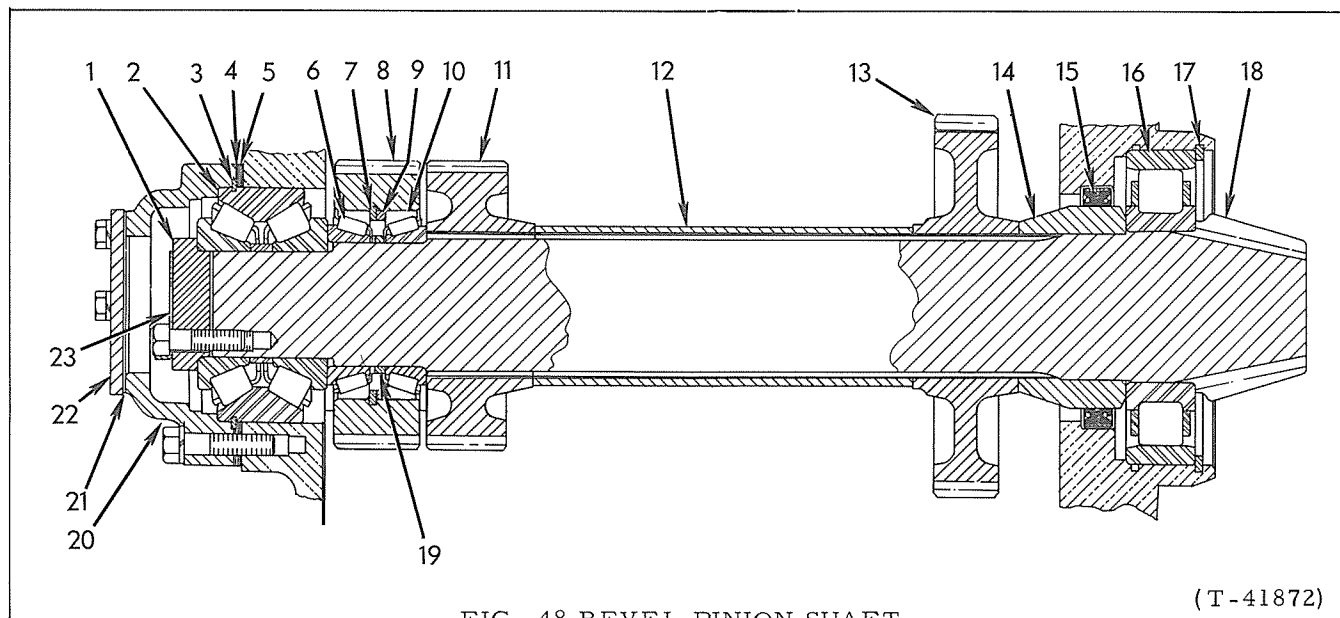

FIG. 48 BEVEL PINION SHAFT
Using suitable press, install rear bearing, Fig. 48 (16) and oil seal sleeve (14) on bevel pinion shaft.
- d. Install bevel pinion shaft oil seal, Fig. 48 (15) in its bore; make certain the seal is fully seated in its bore.
- h. Remove guide tool and install support strap under rear end of shaft. Install rear bearing race retaining snap ring, Fig. 48 (17).
- k. Install sleeve, Fig. 48 (12) and high speed gear (11) on bevel pinion shaft, with long hub of gear toward sleeve.
- o. Refer to Fig. 48; install idler gear and bearing as follows:
- (1) Install rear cone assembly (6) on shaft; tap cone assembly with a suitable driver to make certain it is seated against shoulder on shaft. Install spacer (19).
- (2) With bearing cups (10), spacer (9), and snap ring (7) installed in gear, install idler gear (8) on shaft against rear cone assembly.
- e. Refer to Fig. 48, install bevel pinion shaft front bearing as follows:
- (1) Install rear cone assembly on shaft; tap cone assembly with a suitable driver to make certain it is seated against idler gear bearing.
- (2) Install spacer on shaft against rear cone assembly.
- (3) Install snap ring in groove in bearing cup; install bearing cup in front cover bore against rear cone assembly.
- (4) Install front cone assembly on shaft; tap cone assembly with a suitable driver to make certain it is seated in bearing cup.
- f. Install end washer, Fig. 48(1) and locking plate (23) on bevel pinion shaft. Torque attaching capscrews to 95 to 105 lbs. ft. (13.13-14.52 kg-m). Hit capscrew heads with a hammer several times to make certain the shaft components are properly seated; re-torque capscrews to specified torque. Repeat this until capscrew torque does not change when capscrews are hit with hammer. Lock capscrews with locking plate.
- h. Raise bevel pinion shaft slightly and remove snap ring from front bearing. Install pinion depth adjustment shims, Fig. 48 (5) which were removed at disassembly, or a shim pack approximately .095" (24.13mm) thick. Install snap ring (3) in bearing (2); push shaft down until snap ring is against shims.